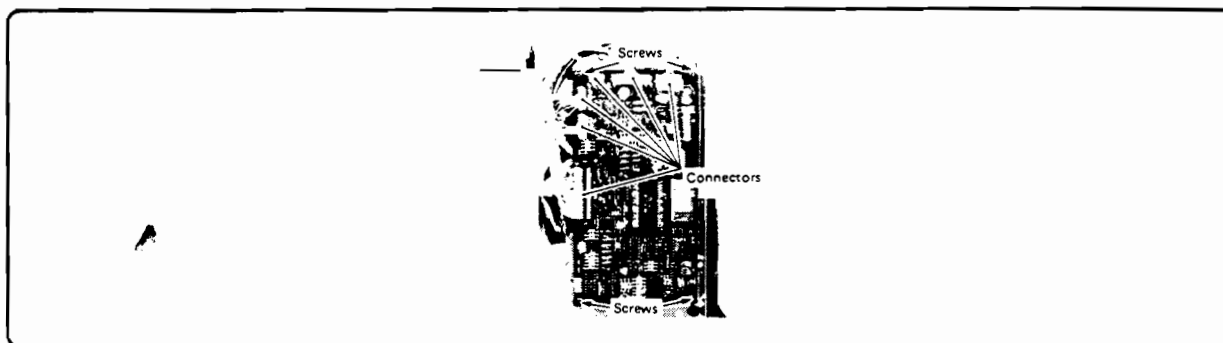

Figure 6-125. Stacker Controller PCA Removal
2. Unplug the connectors (six) from the Stacker Controller PCA; then remove the four mounting screws (Figure 6-125).